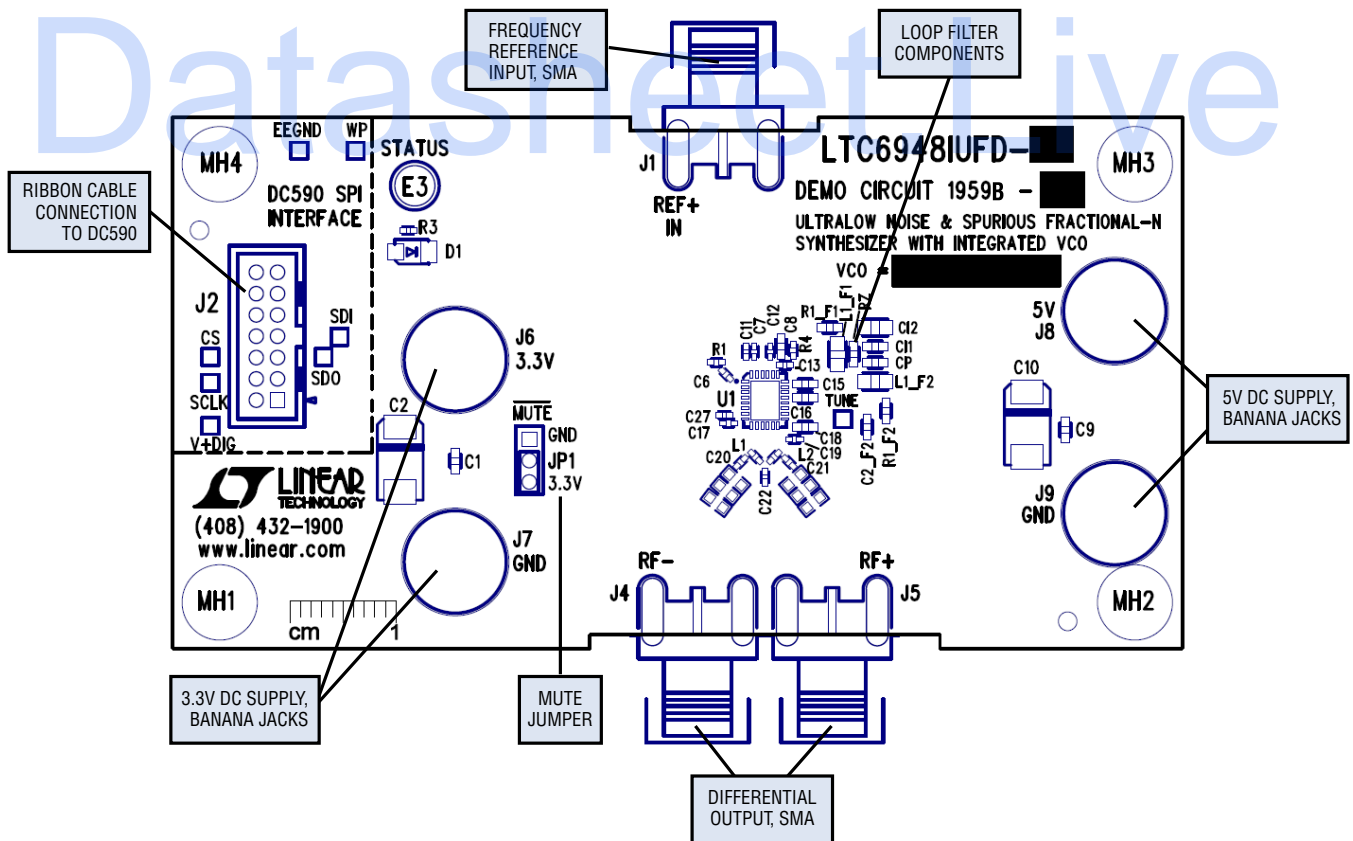

Figure 1. DC1959B Connections
1. Connect a 100MHz reference frequency source to REF+IN (at J1) and signal analyzers to RF+ and/or RF- (at J5 and/or J4) using the SMA connectors (see Figure 1 and the Typical DC1959B Requirements and Characteristics table).
3. Connect the GND, 3.3V, and 5V banana jacks to a power supply and apply power (see Figure 1 and the Typical DC1959B Requirements and Characteristics table).
You can redesign the frequency plan of the DC1959B using FracNWizard. You can change the loop filter as found using FracNWizard by reinstalling the loop filter components shown in Figure 1.